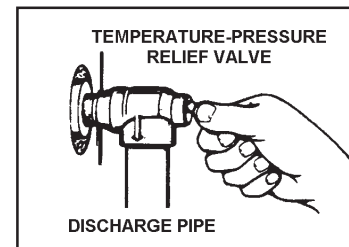

FIGURE 25.
When checking the temperature-pressure relief valve operation, make sure that (1) no one is in front of or around the outlet of the temperature-pressure relief valve discharge line, and (2) that the water discharge will not cause any property damage, as the water may be extremely hot, see Figure 25.